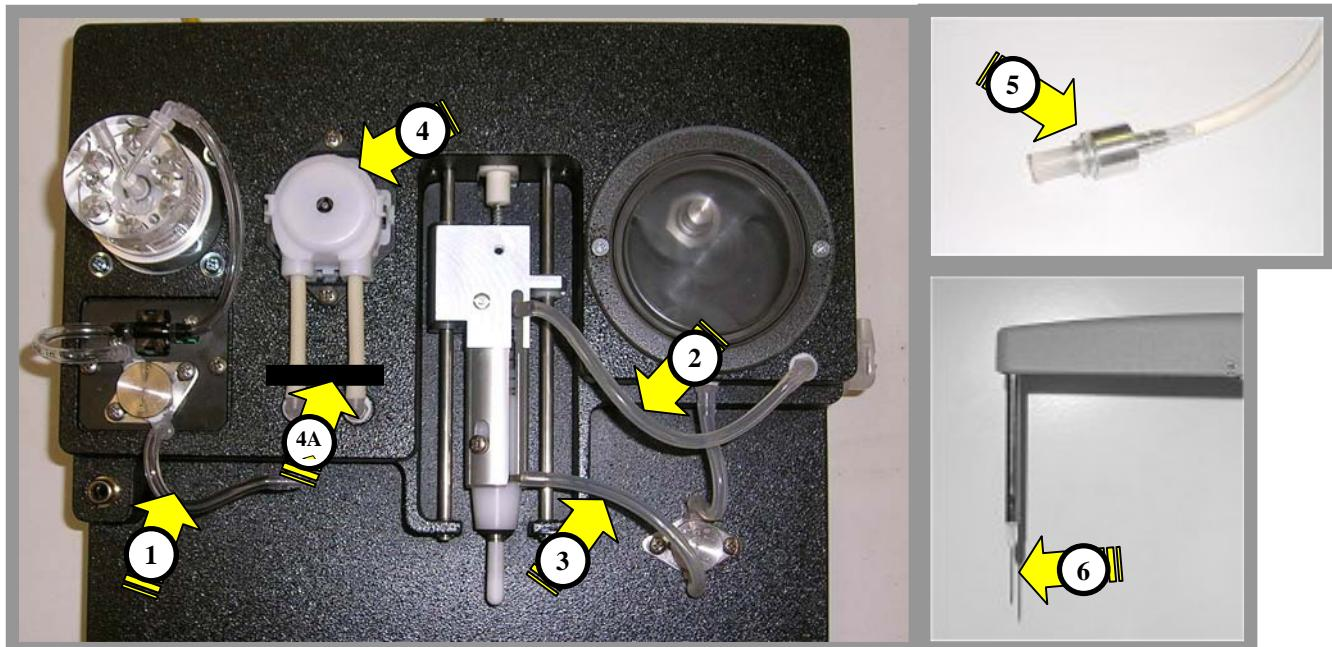

Figure 2
- Peristaltic pump cartridge (ref. 4 fig 2): remove both ends of the peristaltic pump tubing from the diluter manifold. Squeeze the locking catches and remove the defective cartridge. Place the new cartridge on the drive shaft and gently press to snap-fit. Carefully attach the pump tubing to both fittings in the diluter manifold.
- Tube for valves (ref. 1 fig 2): detach valve tube and discard it. Carefully attach ends of no-pinch valve tubing to appropriate fittings (Figure 2).
- Aspiration tube for washing module (ref. 2 fig 2): detach defective tube and replace with new aspiration tube.
- H₂O tube for washing module (ref. 3 fig 2): remove and discard the old tubing. It is possible that a small quantity of distilled water will flow out of the water reservoir. Immediately dry it after the tube replacement. Carefully attach the ends to the valve and to the appropriate fittings of the water reservoir and the washer.
- Tubular filter for water container (263 μ) (ref. 5 fig 2): maintenance includes annual replacement (or if the filter is completely clogged).
- Sampling arm: maintenance of the sampling arm includes annual replacement (or if the device does not work correctly) of the sampling needle (ref. 6 fig 2). To replace the needle, loosen and remove retaining nut with needle from the needle holder. Clean or substitute with new needle. Then gently push in needle into the needle holder until fully seated and screw it gently back into the needle holder.